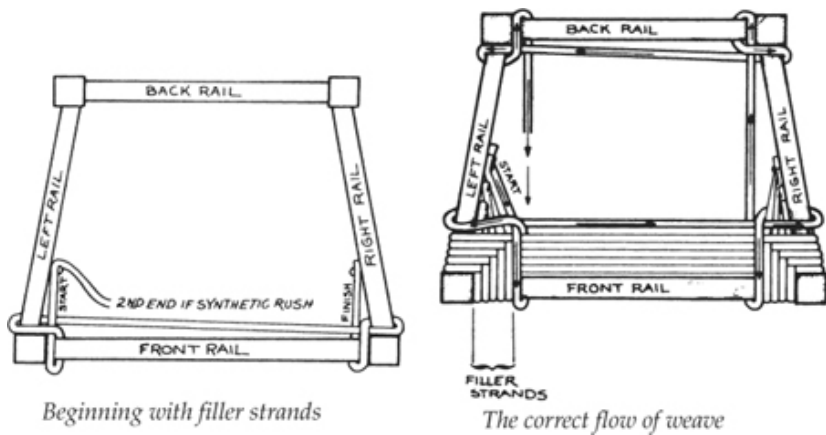

fig. 16
3. The weaving of square or rectangular seats and the weaving of shaped seats, seats with longer front rails than back rails, differs a bit. If you are restoring a shaped seat, you will need to square the design with some extra rush on the front of the chair seat. To do this, measure the front and back rails. Divide the difference in half and mark each half off from each corner post on the front. Refer to Figure 16 for steps 3 through 20.
11. You are now ready to start the full pattern. This would be your starting point if you were doing a square or rectangular seat. Tack or tie one end of a coiled length of rush to the inside of the left-rail. Refer to Figure 16.